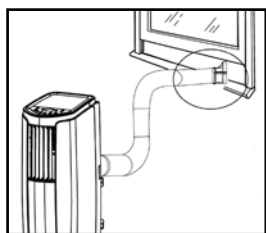
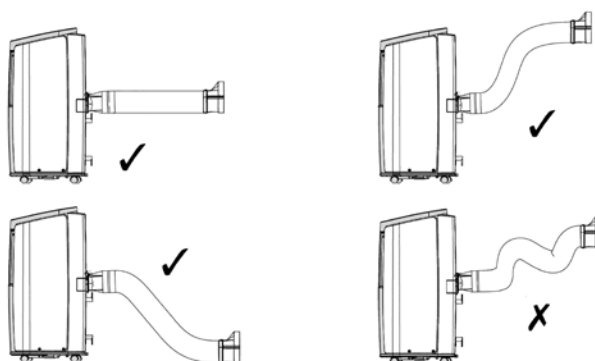

Fig. 5
Fig. 6
**7** Pass the other end of the hose with connector B/C outside, for instance through an open window (see fig. 5). Make sure that the hose is as straight as possible (see fig. 6).